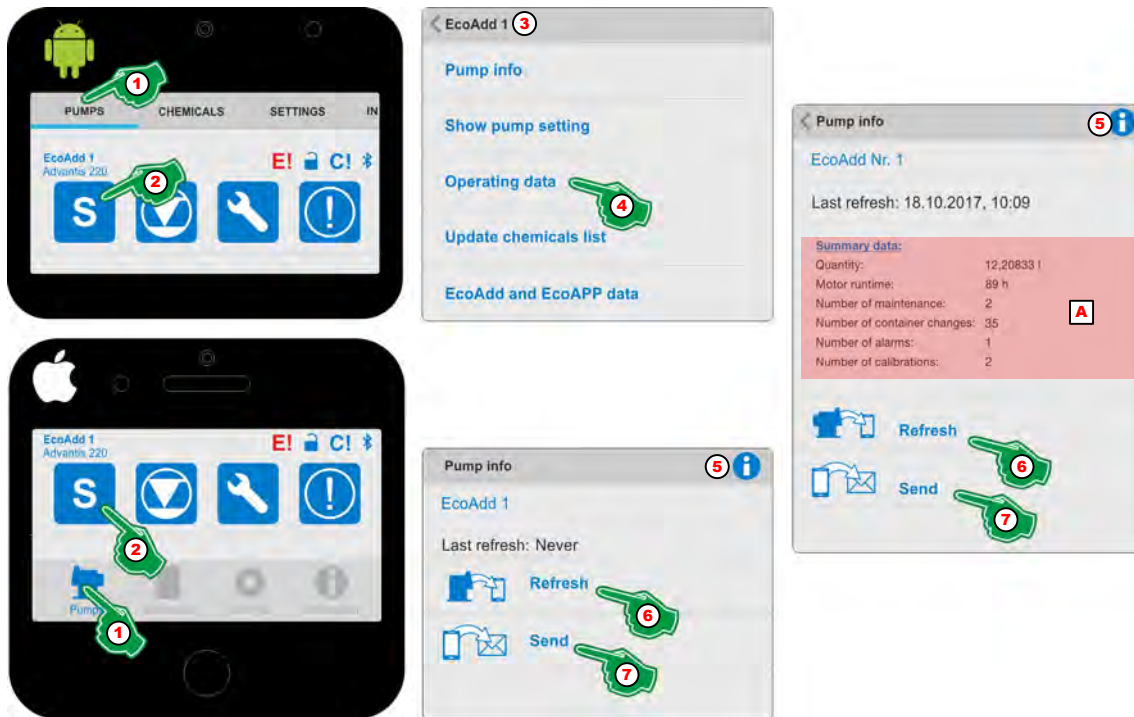

Fig. 27: Show operating data
1. Select Menu [Pumps] (Fig. 27, Pos. 1).
2. Select 'Dosing mode' Symbol (Fig. 27, Pos. 2).
3. To check which pump is currently displaying data, click on header (Fig. 27, Pos. 3) in which the selected pump is displayed.
4. Select [Operating data] (Fig. 27, Pos. 4).
5. With the selection of the [Info] ⓘ Symbol (Fig. 27, Pos. 5), the following information appears:
6. Select [Refresh] (Fig. 27, Pos. 6).
⇒ 'EcoAPP' retrieves the data from the 'EcoAdd' metering pump and displays this under 'Last retrieved' (Fig. 27, Pos. A).
7. Select [Send] (Fig. 27, Pos. 7).